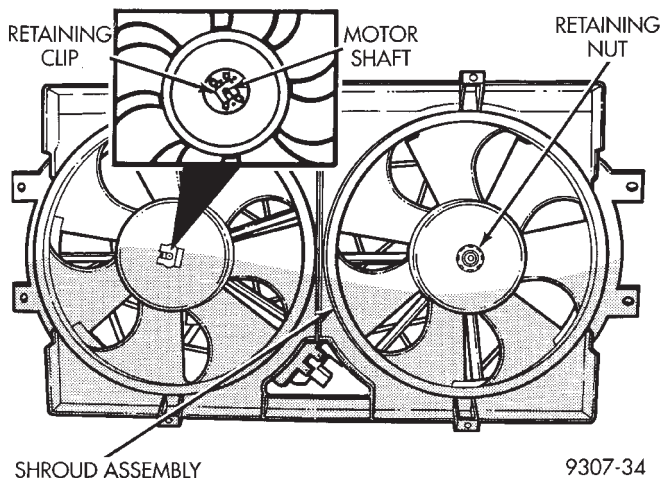

Fig. 27 Radiator Fans
(1) To remove fan from motor shaft, bench support the motor and motor shaft, while removing the fan retaining clip (Fig. 27) or nut, so that the shaft and motor will not be damaged by excessive force. **Surface or burr removal may be required to remove fan from motor shaft.** Do not permit the fan blades to touch the bench.